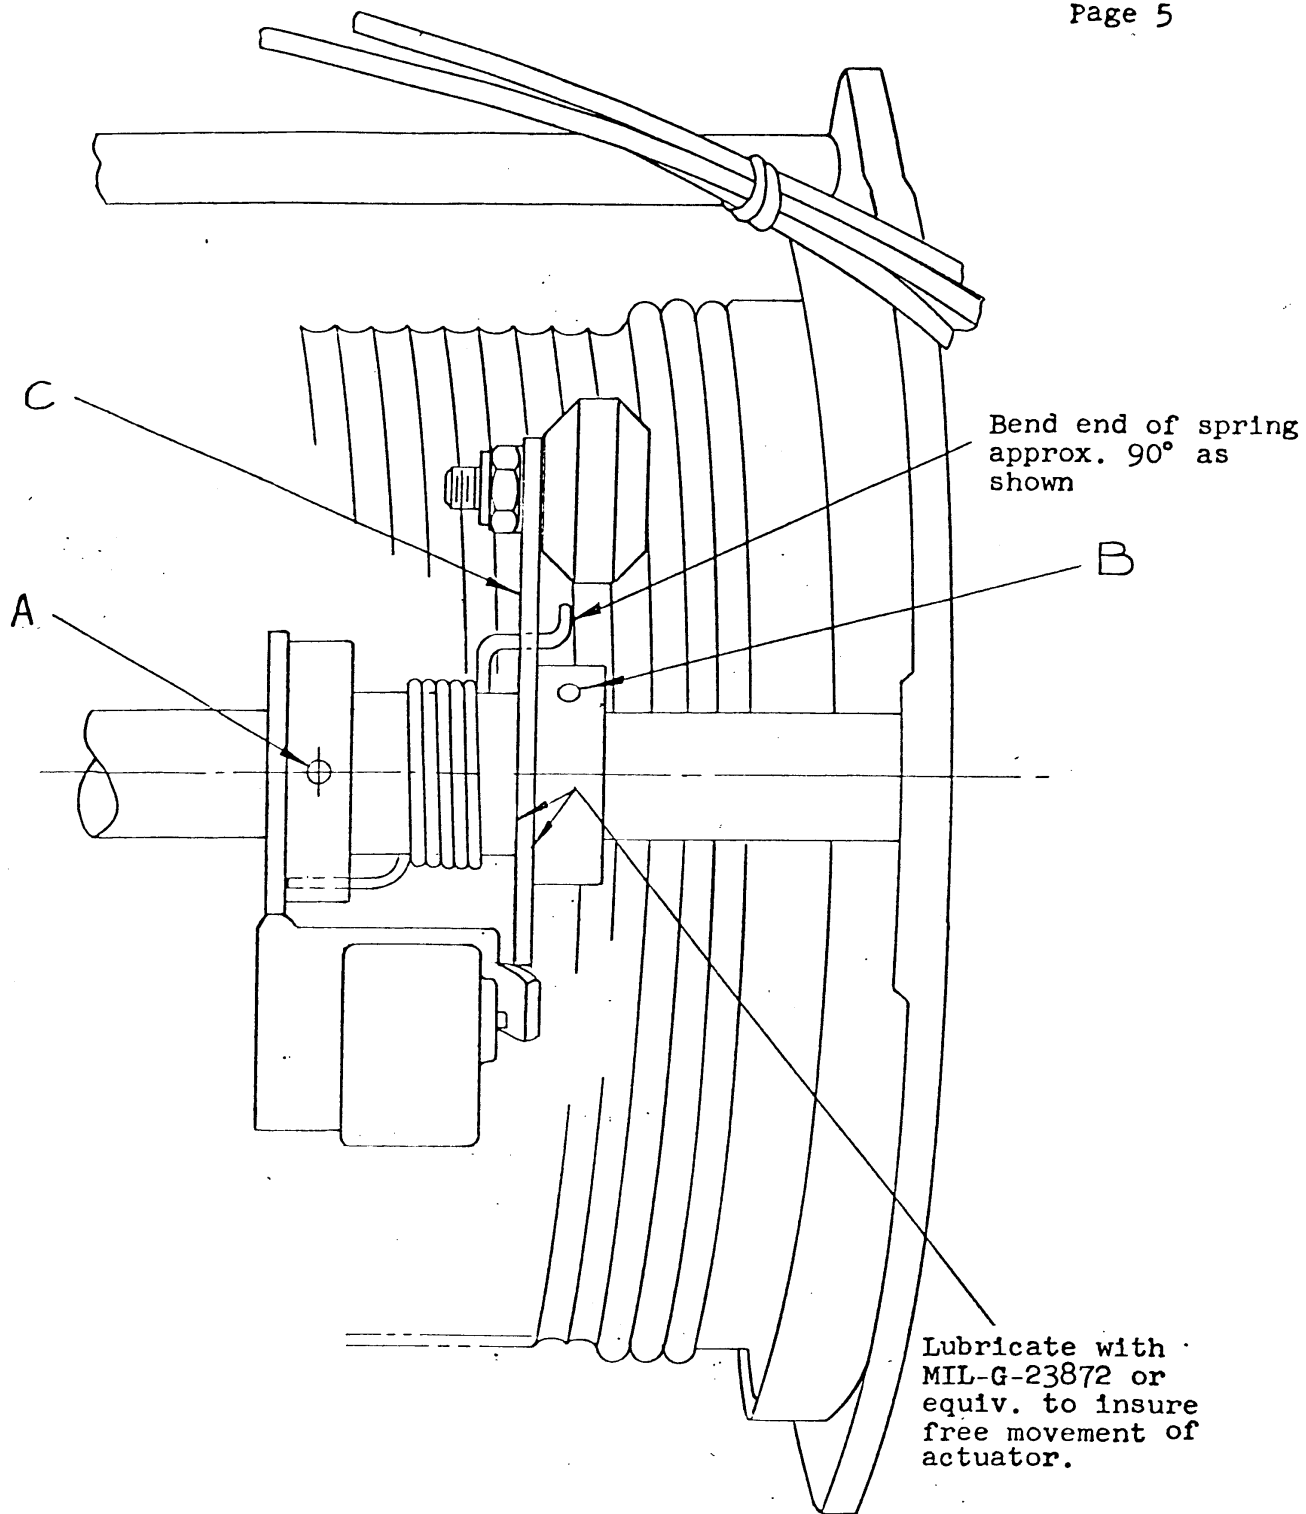

FIGURE 1
1. Switch assembly must be positioned on cross bar so as to allow switch roller to contact grooved surface of drum immediately adjacent to inactive cable wraps (2 1/2 to 3 1/2 wraps). This may be accomplished by loosening both sets of socket head screws (A and B, Fig. 1) in both collar assemblies. The switch assembly may then be slid across the bar to the desired position. Tighten the socket head screws to 4 in. lb. End clearance in the assembly must be maintained at .002 to .005 to allow proper movement of roller arm. (C, Fig. 1)
2. With roller resting on grooved portion of drum adjacent to the proper number of inactive turns (2 1/2 to 3 1/2) loosen socket head screws (A, Fig. 1) and rotate switch until it can be heard to actuate. Tighten socket head screws to 4 in. lb. Again, end clearance must be .002 to .005 for proper operation.
3. Bend end of spring per Fig. 1.